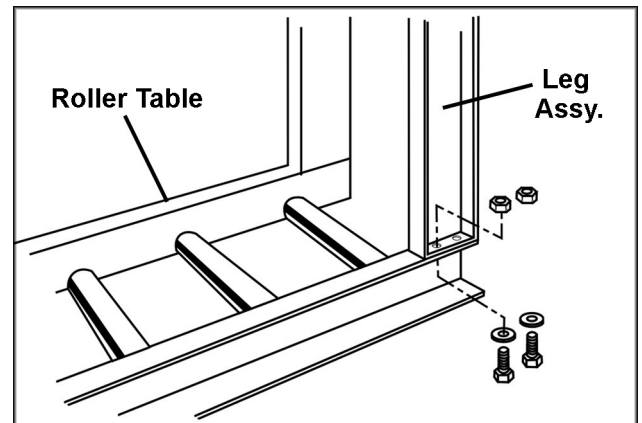

FIGURE 11
2. Place the roller table upside down on a flat surface and attach the leg assemblies with four M8 x 25 hex cap screws, eight M8 flat washers, and four M8 hex nuts per leg assembly (Fig. 11).